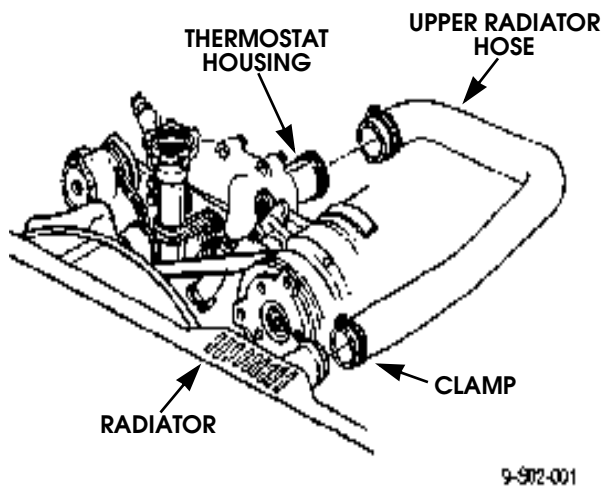

Figure 4-15: Upper Radiator Hose Location
3. Loosen clamps and remove hose from thermostat housing and radiator (Figure 4-15).
1. Secure upper radiator hose to thermostat housing and radiator with clamps (Figure 4-15).